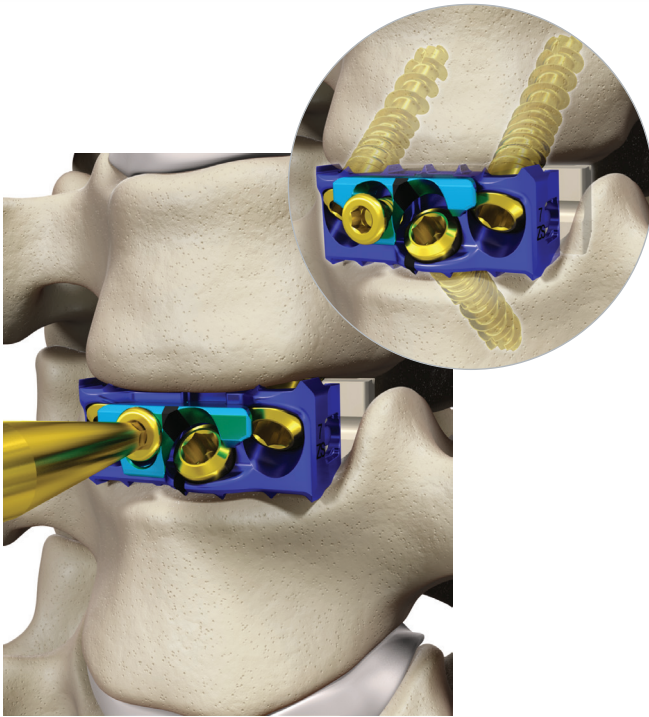

Figure 86
- Once the plate has been sufficiently exposed, seat the locking cap driver/modular handle assembly into the gold locking screw. Turn the gold locking mechanism screw counter-clockwise until the teal locking cap can move freely. Do not rotate the gold cap more than 1.5 turns. Slide the teal locking cap using a forceps or other general surgical instrument to uncover all three bone screws (Figure 86).